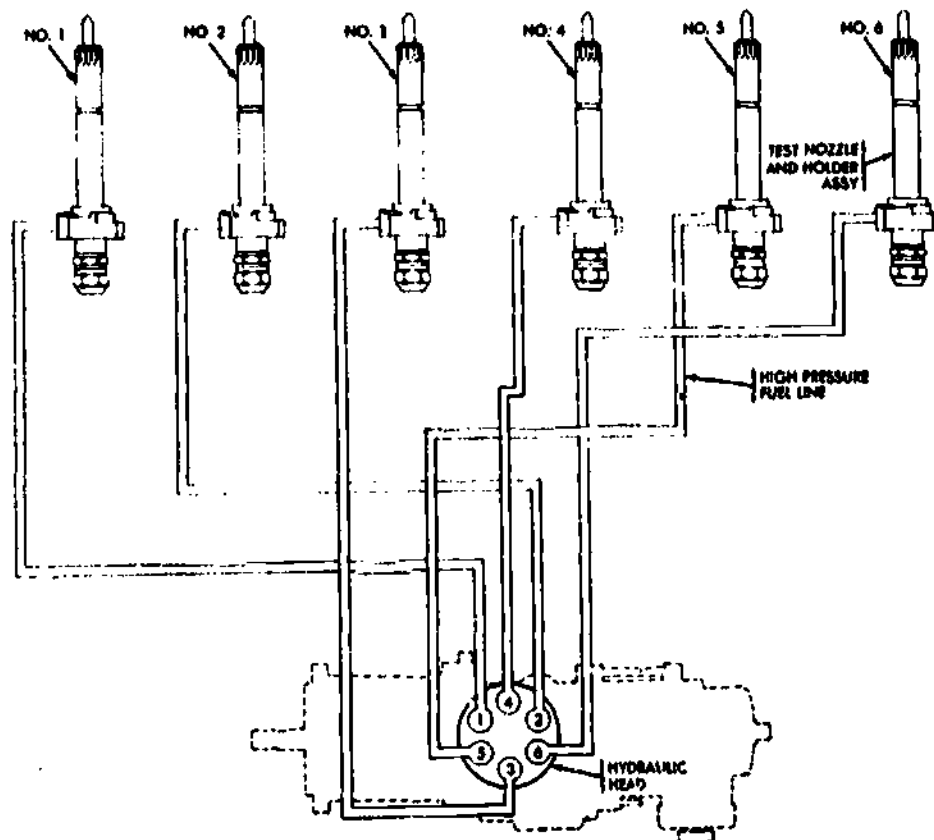

Fig 3-7. Injection pump hydraulic head.
h. Injector pump hydraulic head (fig 3-7). Fuel flows from the final stage filter through a tube to the injection pump inlet tee fitting. This fitting is screwed into the fuel density compensator which is located on the rear of the injection pump assembly. The fuel density compensator will be discussed later. Fuel is directed from the injection pump inlet tee to the injection pump hydraulic head. In the injection pump hydraulic head, the fuel is metered, pressurized, and distributed to the cylinders. Just how this is done will be discussed later. Fuel is sent from the hydraulic head to the injector nozzles at the cylinders through high-pressure fuel lines. These lines have thick walls to withstand the high pressure produced by the hydraulic head. The pressure may go as high as 3,200 psi. Notice that the lines are connected to the hydraulic head like the wires in the distributor cap of a spark ignition engine.